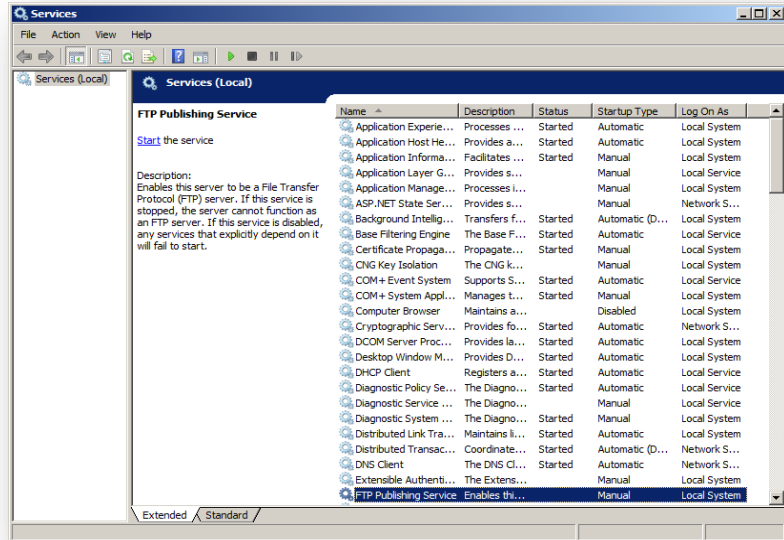

Figure 11 - Services
- Click the Start Menu/Administrative Tools and click **Services** to open the Services window. See Figure 11.